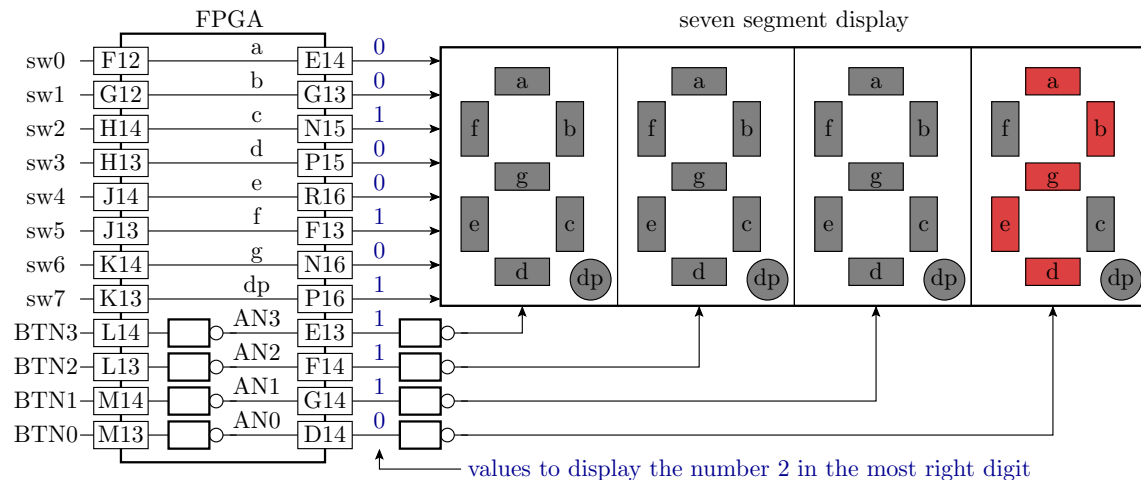

Figure 1: Test of the seven segment display
The seven segment display on the test board has four digits. The cathode signals of all segments *a* to *g* and *dp* are grouped together to save wires. The four anode signals »AN0« to »AN3« of each digit are separately available and inverted by transistors between the FPGA and the display (figure 1). To turn on a display element the corresponding cathode signals, which are *a*, *b*, ... and *dp*, have to be set to »0« and the corresponding anode signal »AN0«, »AN1«, ... or »AN3« has to be set also to »0«.
In the first experiment as shown in figure 1, the cathode signals are provides by switches and the anode signals by buttons and inverters. Design an appropriate architecture description to the following entity description
¹Keep also the programming files of the circuits in the figures 1, 3 and 4, to be also able to present it on request to the supervisor.
- presentation of the circuit description to figure 1